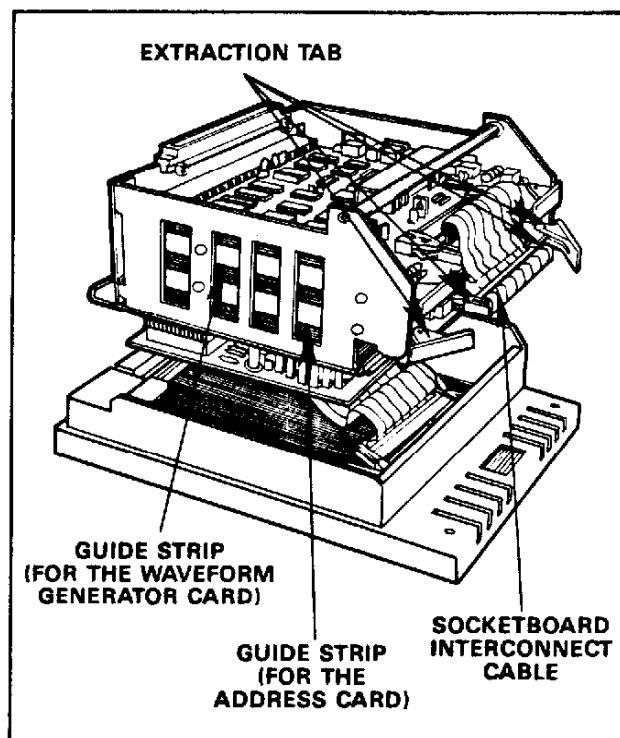

Figure 4-3. Circuit Board Removal
9. Flip the extraction tabs out on the top card (waveform generator card) and unplug the interconnect cable from its connector (figure 4-3).
11. Pull the waveform generator card out along the guides (figure 4-3).